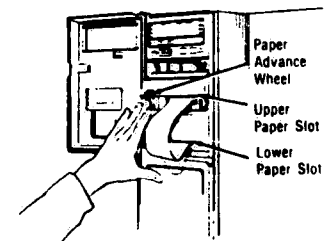

Figure 7-25. INSERTING PAPER INTO AUTOMATIC PAPER STORAGE AREA.
Automatic Paper Storage* (Fig. 7-25)
2. Using paper advance thumbwheel on the left side of the upper paper slot, advance paper until it extends 6 to 8 inches below the lower paper slot (Fig. 7-25).